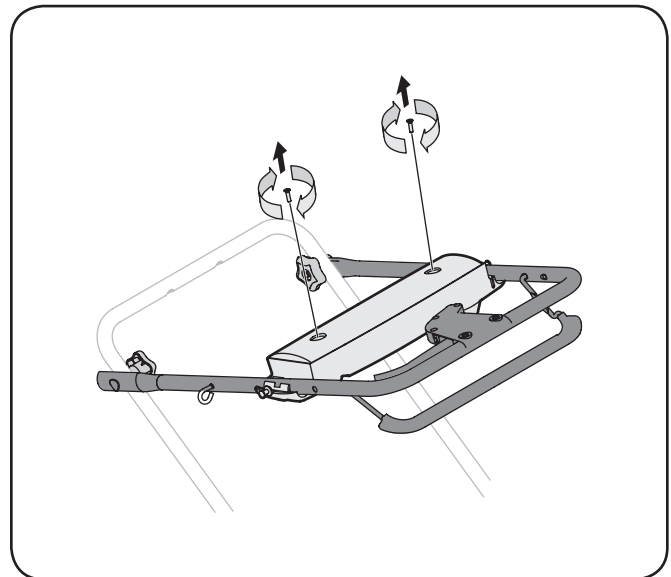

Figure 7-2
1. Loosen star knobs securing upper and lower handles and carefully fold the upper handle down toward the lower handle as shown in Figure 7-2.
2. Remove the two screws securing battery cover to battery housing and place them to the side. See Figure 7-2.
1. Open the battery cover as described in Replacing Battery. See Figure 7-2.